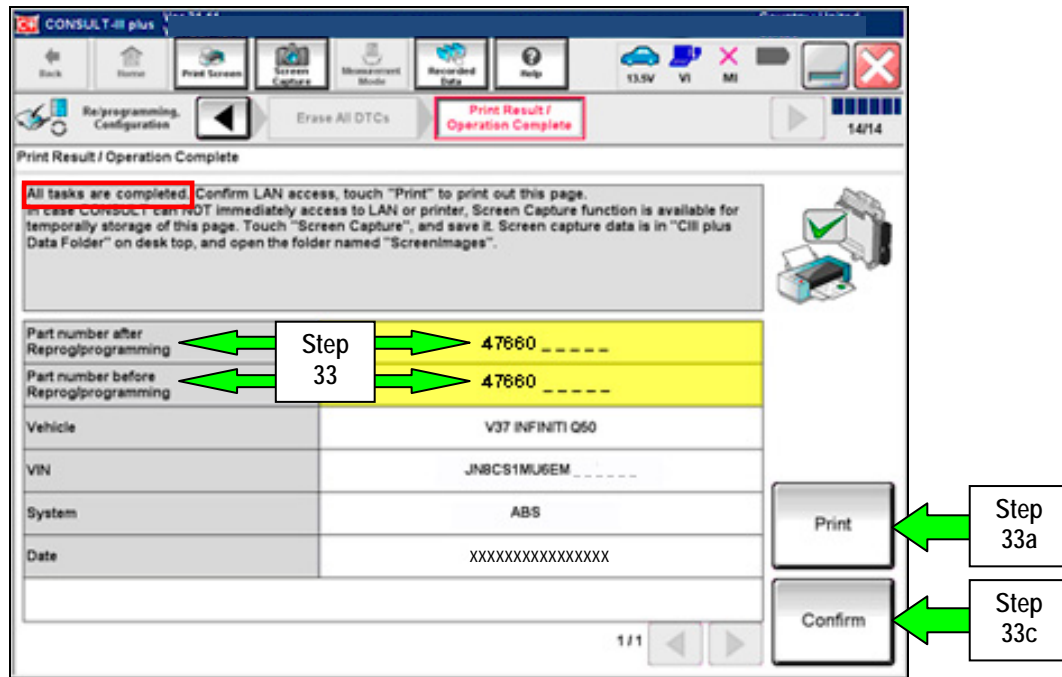

Figure 19
- a. Print a copy of the screen in Figure 19 by selecting **Print**.